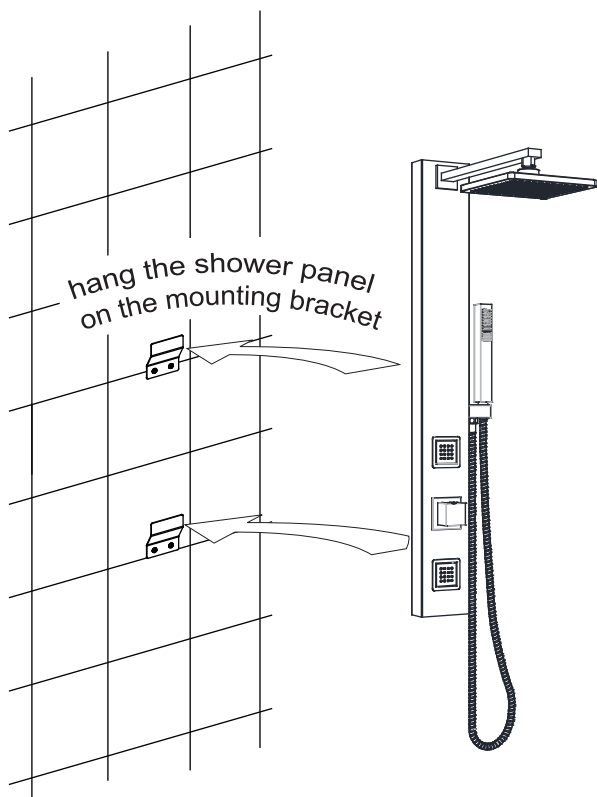
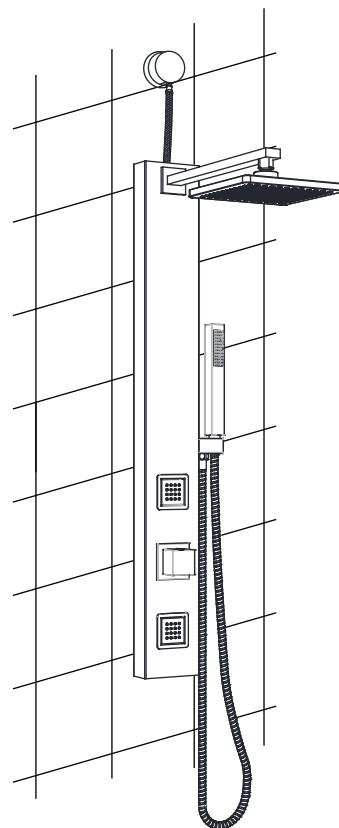

Fig 6.1
Fig 6.3
- 6-3** Slide the shower panel down until it rests on the mounting brackets. Slightly pull down the shower panel to secure. (Fig 6.1, Fig 6.3)